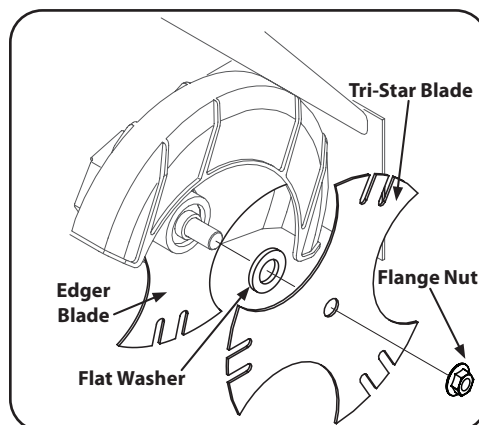

Figure 3-6
1. Use two wrenches (one wrench to prevent the hex bolt head from spinning and the other to unthread the flange nut) to remove the flange nut that secures the edger blade, leaving the edger blade in place. See Figure 3-6.
2. Install the additional edger blade and flat washer supplied with your machine. See Figure 3-6.